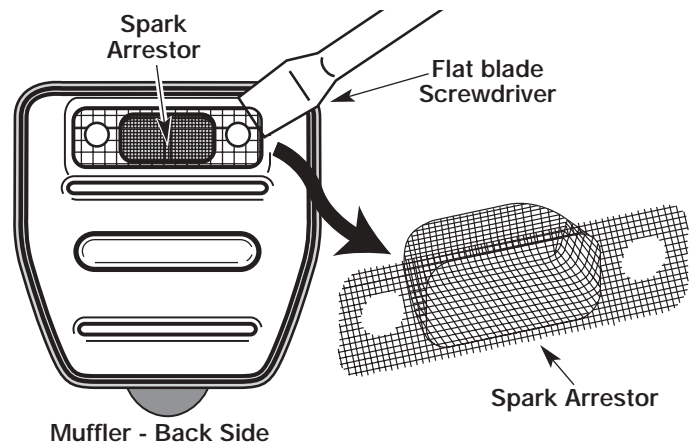

Figure 27
4. Using a small flatblade screwdriver, carefully pry up the spark arrester from the recessed hole. See Figure 27. Remove the spark arrester from the muffler.
5. Clean the spark arrester with a wire brush. Replace it if it is damaged or if it is impossible to clean thoroughly. See Figure 27.